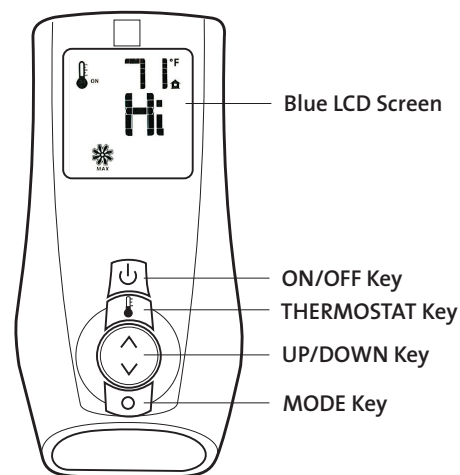
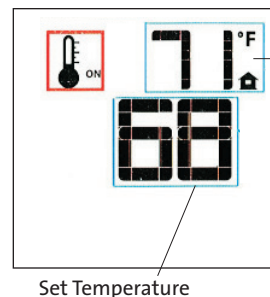
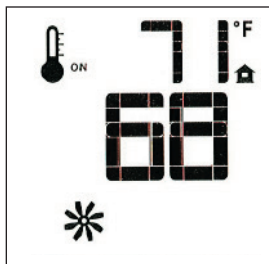

Figure 40.
Figure 48. Thermostat ON
Figure 52. Fan Mode
- To activate this function, press the Thermostat Key, (Fig. 40.) The display will indicate that the room thermostat is "ON" and the current Set Temperature is now displayed. Fig. 48.
- Fan speed can be adjusted through six settings. To activate this function, press the Mode Key (Fig. 40) to index to the Fan Control icon. See fig. 52.